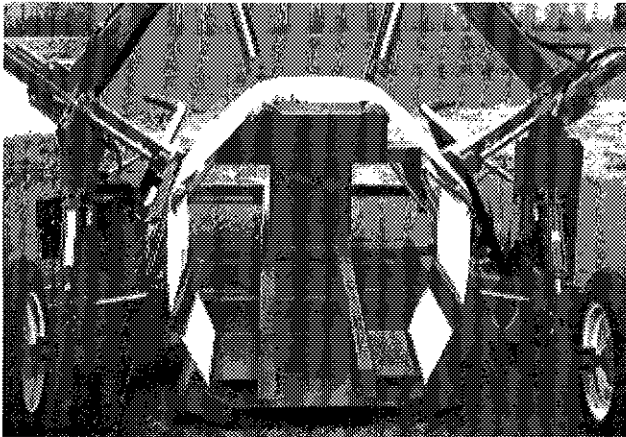

Figure 26
- 4) At this stage, apply a **SLIGHT AMOUNT OF TENSION** to the tube. Open each pair of stretcher arms until the end of the internal square tubing reaches the pilot hole of the outer guide tube. (Fig. 25 and Fig. 26)